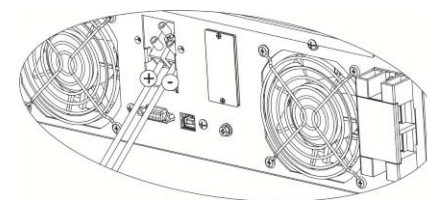

Figure 6.3
Step 4: Check correct polarity of connection cable from PV modules and PV input connectors. Then, connect positive pole (+) of connection cable to positive pole (+) of PV input connector. Connect negative pole (-) of connection cable to negative pole (-) of PV input connector. Refer to Figure 6.3.